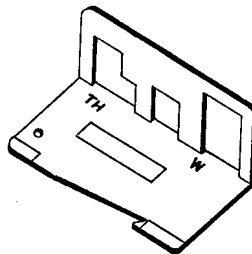

FIGURE 11. Gaff Gauge
6.02 Use a gaff gauge (see Figure 11) to measure the thickness, width, and length of gaffs: